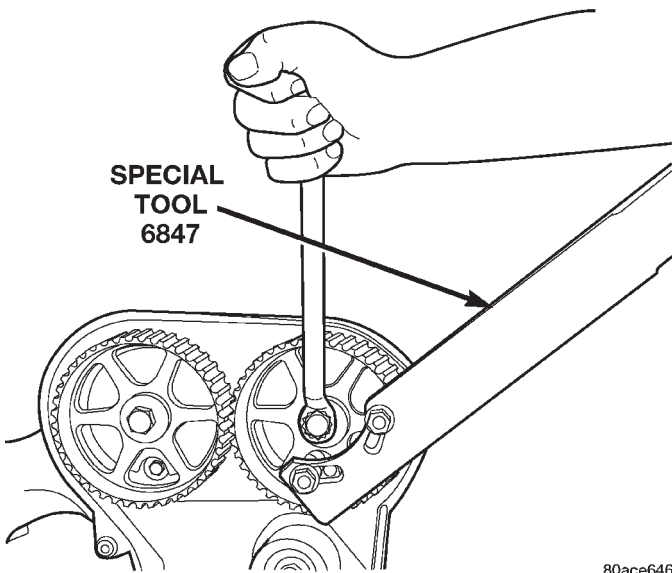
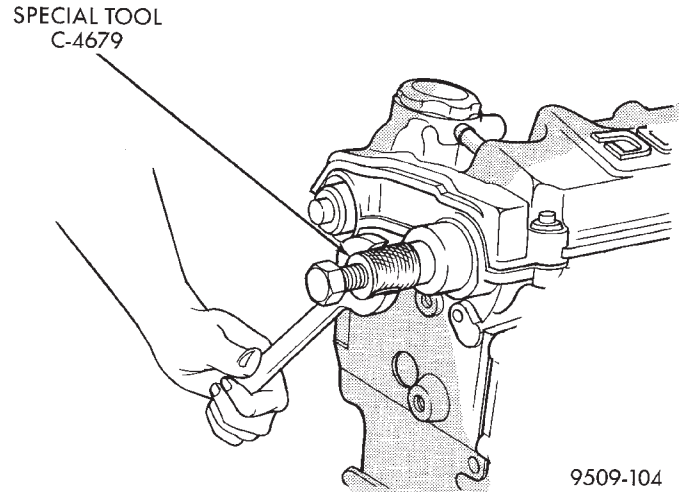

Fig. 69 Camshaft Sprocket—Removal/Installation
Fig. 70 Camshaft Oil Seal—Removal With C-4679-A
- (1) Remove front timing belt cover and timing belt. Refer to procedures in this section.
- (2) Hold camshaft sprocket with Special Tool 6847 while removing center bolt (Fig. 69).
- (3) Remove rear timing belt cover. Refer to procedure in this section.
- (4) Remove camshaft seal using Special Tool C-4679-A (Fig. 70).
- (3) Install rear timing belt cover. Refer to procedure in this section.
- (4) Install camshaft sprocket. While holding sprocket with Special Tool 6847, tighten center bolt to 101 N·m (75 ft. lbs.) (Fig. 69).
- (5) Install timing belt and front covers. Refer to procedures in this section.